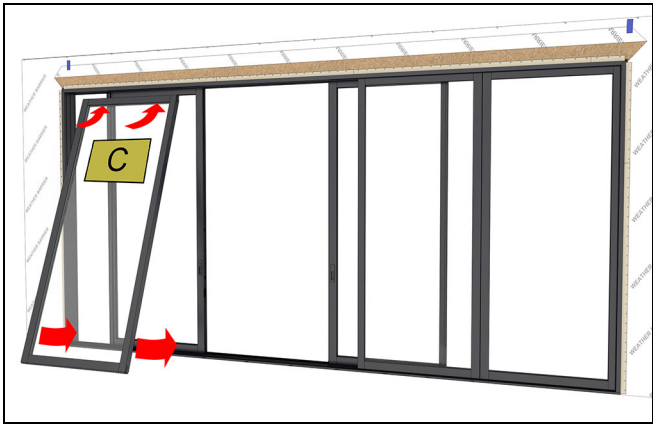
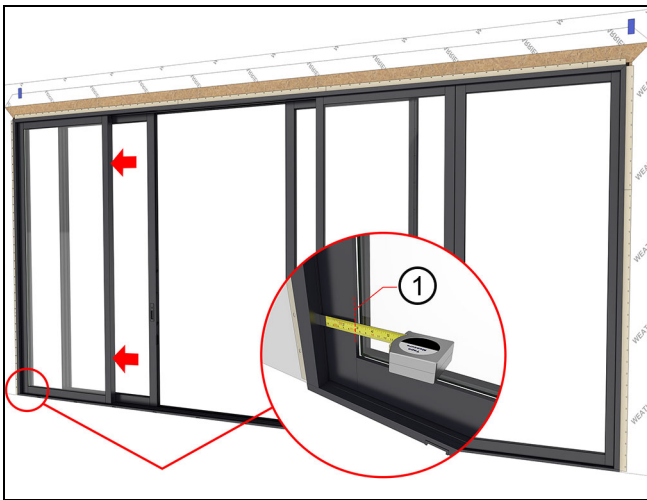

Figure 140
Figure 141
12. Install the (C-L) stationary panel onto the exterior track, slide the panel tight against the stationary jamb. The measurement from the inside of the exterior frame to the edge of the daylight opening should be 2 5/8" when the panel is fully seated inside the jamb. See Figure 140 and Figure 141.